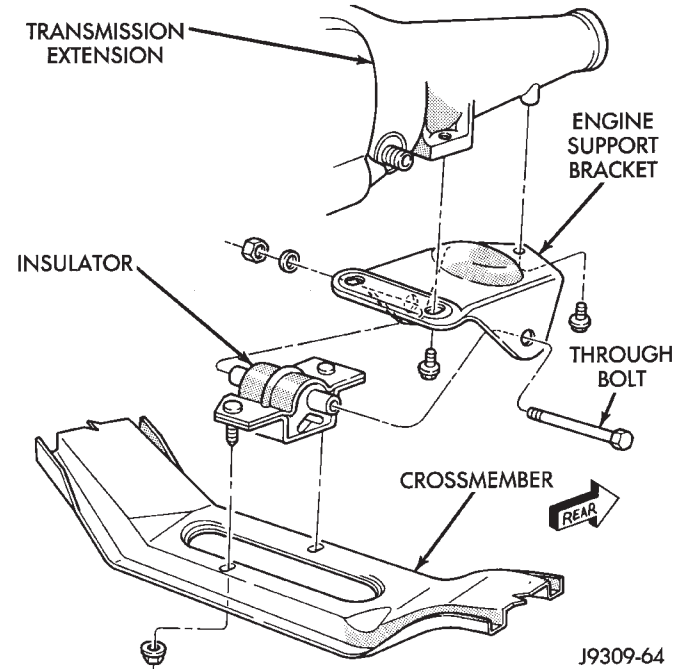

Fig. 20 Rear Insulator—2WD Vehicles
- (1) Disconnect the negative cable from the battery.
- (2) Raise the vehicle on a hoist.
- (3) Support the transmission with a jack.
- (4) Remove engine support bracket and insulator thru-bolt (Fig. 20).
- (5) Raise the transmission and engine slightly.
- (6) Remove stud nuts attaching insulator to crossmember (Fig. 20). Remove insulator.
(1) If the engine support bracket was removed, position the bracket to the transmission extension (Fig. 20). Tighten the bolts to 68 N·m (50 ft. lbs.) torque.
(2) Install the insulator onto crossmember. Tighten the stud nuts to 41 N·m (30 ft. lbs) torque.
(3) Lower the transmission and engine while aligning the engine support bracket to the insulator.
(4) Install thru-bolt in bracket and insulator. Tighten thru-bolt nut to 68 N·m (50 ft. lbs.) torque.
- (5) Remove transmission jack.
- (6) Lower the vehicle.
- (7) Connect the negative cable to the battery.